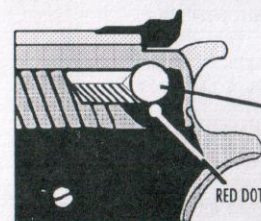
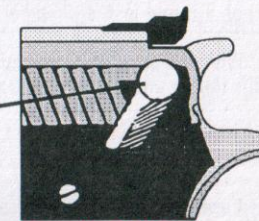

Figure 1. SAFETY OFF
Figure 2. SAFETY ON
In the safe position, shown in Figure 2, the thumb safety stops the hammer from contacting the firing pin and also blocks the firing pin. The safety does not stop the hammer from falling when the trigger is pulled. Figure 1 shows the thumb safety in the off or fire position.
1. While ensuring the pistol is pointing in a safe direction, place the thumb safety in the "SAFE" position. (When positioned in the "SAFE" position, the RED DOT will NOT be visible, Figure 2.)
2. With the pistol pointed at the intended target (and in a safe direction), push slide stop down with your thumb to release the slide. Move the thumb safety to the "FIRE" position as shown in Figure 1. The pistol is now ready to fire.
2. With the pistol pointed in a safe direction, place the thumb safety in the "SAFE" position, Figure 2.
1. With the pistol pointed in a safe direction, place the thumb safety in the "SAFE" position, Figure 2.